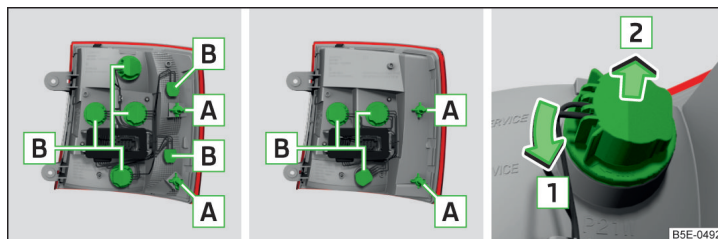

Fig. 229 Outer part of the light: Basic light/light with LED diodes
- Turn the socket with the bulb **B** in the direction of **1** » Fig. 229.